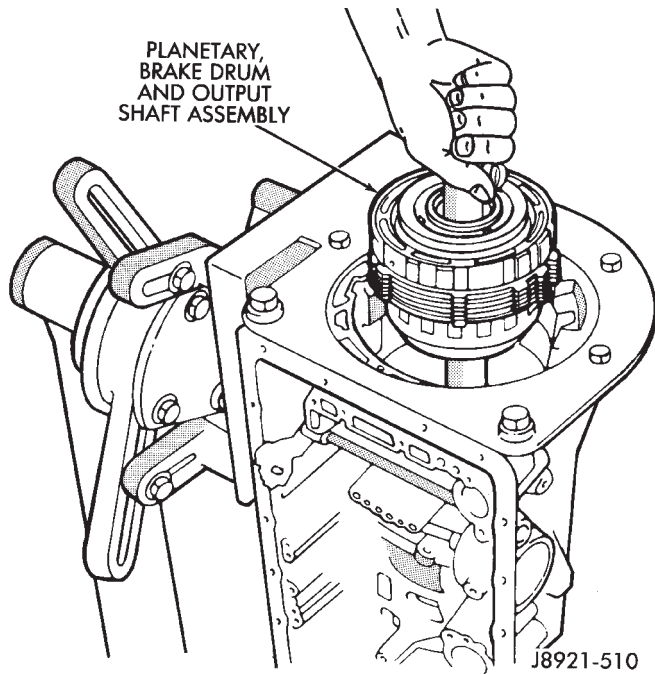

Fig. 119 Removing Rear Planetary, Second Brake Drum And Output Shaft
(53) Remove second brake snap-ring.
(54) Remove rear planetary gear, second brake drum and output shaft as an assembly (Fig. 119).